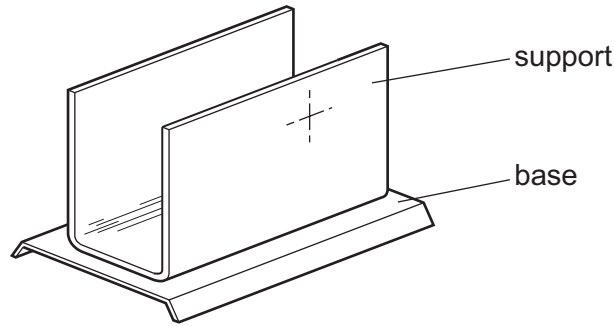

**Fig. 8**
- (d) The support could be made by means of extrusion moulding. Fig. 8 shows an extrusion moulding machine.
Add notes to Fig. 8 to describe the process of extrusion.